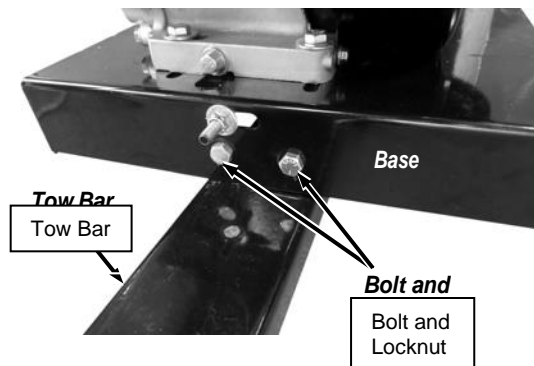

Figure 9
4. Position the Tow Bar under the Base and secure the front Bracket with 3/8- 16 x 1" Bolts and Locknuts using two 9/16" Wrenches (**Figure 9**).